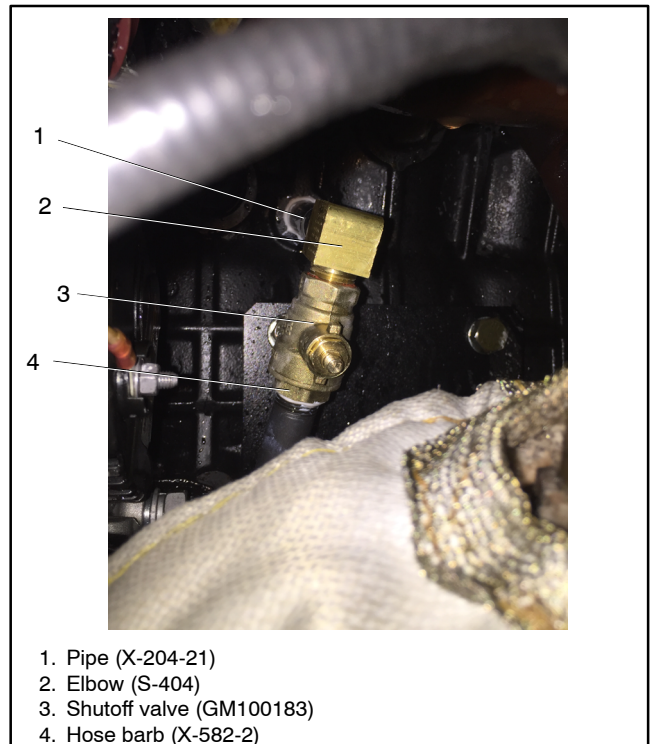

Figure 12 Elbow and Valve Installation
11. Apply pipe sealant to the threads of pipe (X-204-21) and install street elbow (S-404) on the pipe. Thread the two parts into the lower port and tighten them in such manner that the elbow outlet is at a 45° angle pointed towards the front of the engine. See Figure 12.